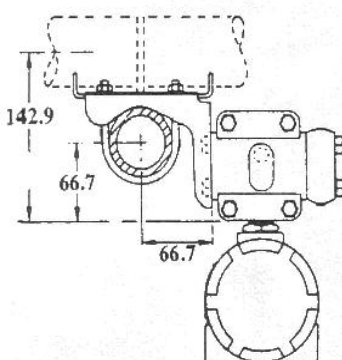

Figure 2-2 The installation of pipe mounting angle bracket
**The installation of pipe mounting angle bracket:** the typical installation as Figure 2-2 shows. Fix transmitter in angle bracket using four bolts provided, and then fix the angle bracket on the horizontal pipe of  $\Phi 50\text{mm}$  around with the U-shape bolt provided.